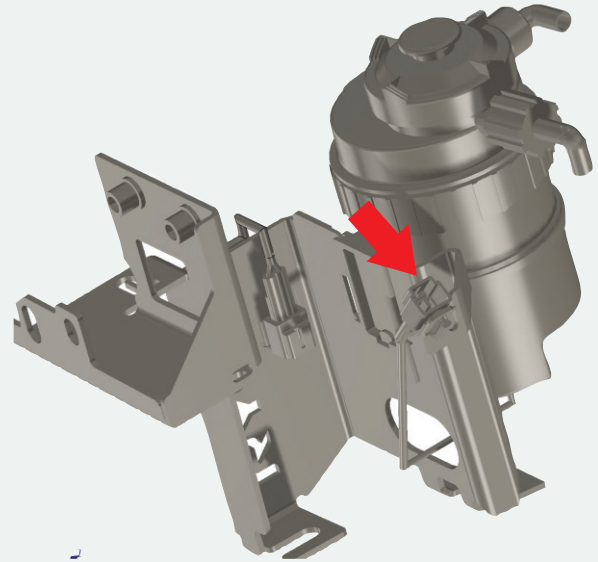

FIGURE 5B
- 12 Clip the female OEM Deutsch connect #1 onto the slot as shown in FIG.5B.